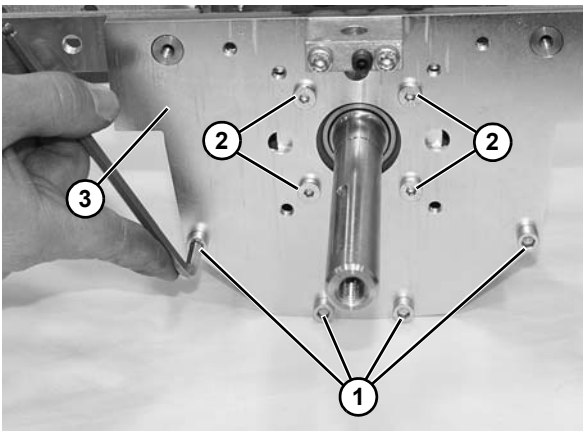

Figure 143
- Remove four socket head screws (Figure 143, item 1).
- Remove four low head cap screws (Figure 143, item 2) and remove side plate (Figure 143, item 3).